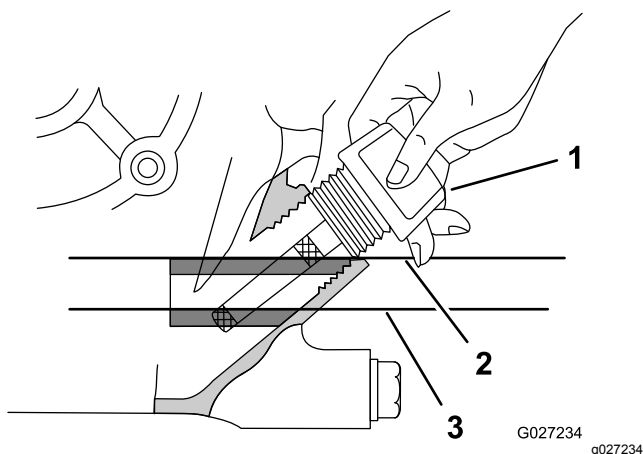

Figure 8
4. Remove the dipstick from the engine and wipe the dipstick with a clean rag (Figure 8).
5. Insert the dipstick from the engine as shown in Figure 8.
6. Remove the dipstick from the filler neck and look at the oil level in the dipstick (Figure 8).
**Note:** The engine oil level must cover between the hatch marked areas on the dipstick (Figure 8).
8. Hand tighten the dipstick into the filler neck (Figure 8).